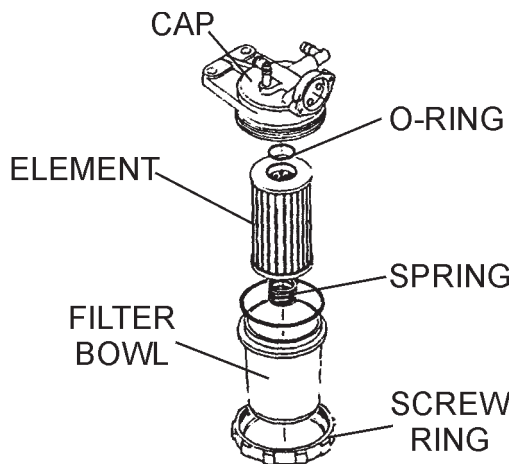

Figure 33. Fuel Filter Disassembly
1. Remove the top cap (Figure 33) from the fuel filter and rinse cap and filter bowl with diesel fuel.